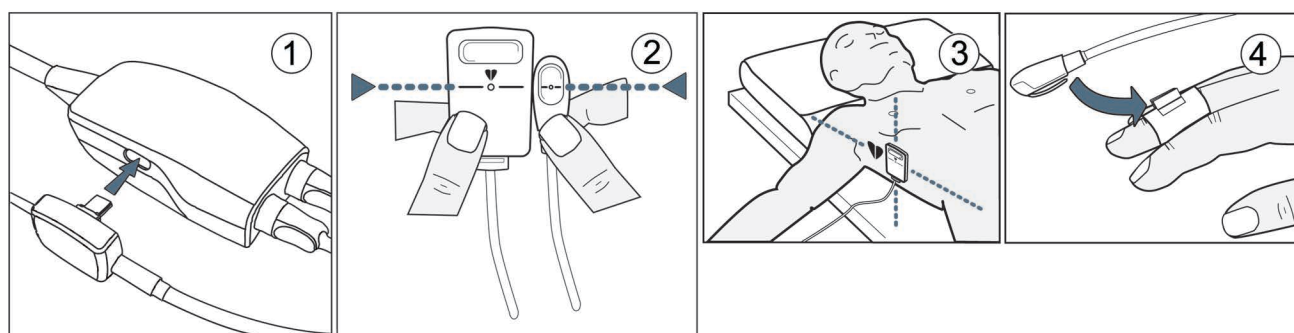

Figure 10-4 Heart reference sensor application
- 1 Connect the HRS to the pressure controller. See ① in figure 10-4.
- 3 Vertically align both ends of the HRS and touch the zero button. See ② in figure 10-4.
- 5 Apply the heart end of the HRS to the patient at phlebostatic axis level by using an HRS clip. See ③ in figure 10-4.
- 6 Attach the other end of the HRS to the finger cuff. See ④ in figure 10-4